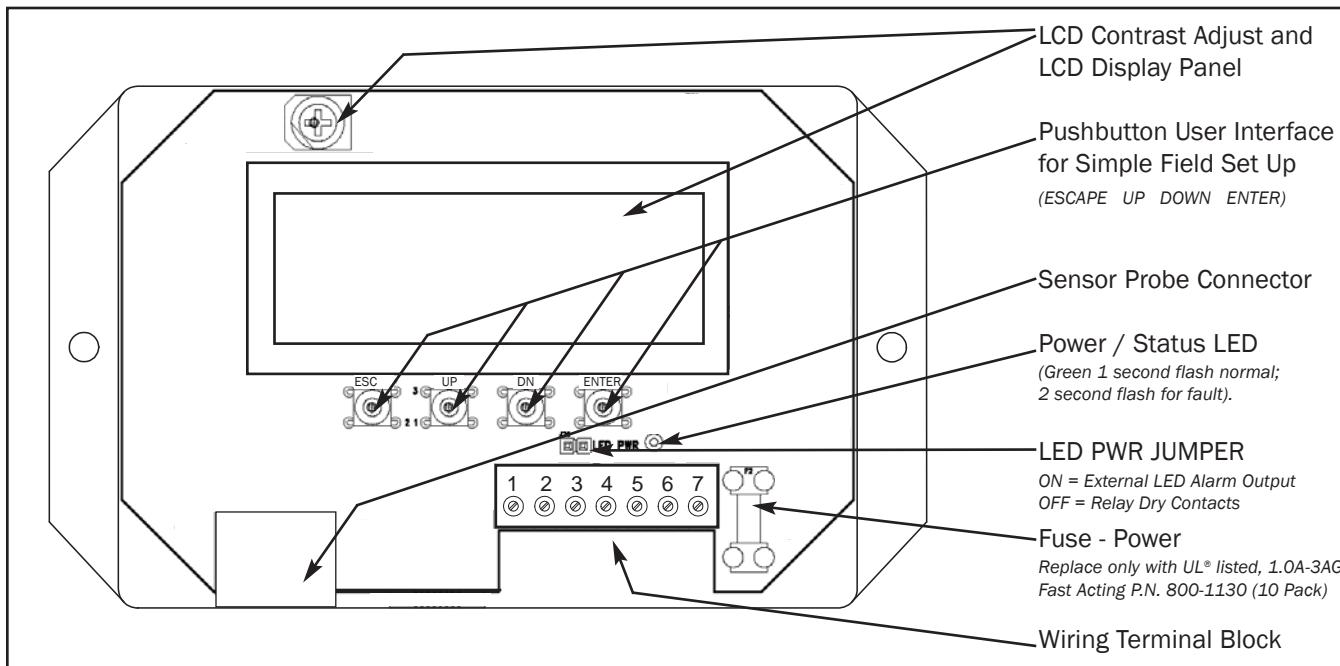

Figure 6. GF-1200-A Main Circuit Board Detail
Transmitter wiring consists of connecting the 24VAC input power, the analog output signal wires and optional alarm output wires at the GF-1200-A. Refer to Figures 6 and 7 for additional detail. Following installation, the airflow measurement station is ready for operation. Custom setup options (other than the default values) can be entered as outlined in the transmitter Setup Procedure.
1. Remove the four cover retaining screws at each corner of the transmitter cover in order to gain access to the transmitter Wiring Terminal Block on the main circuit board shown in Figure 6.
3. Connect 24 VAC power to terminal 7, and the 24V ground at terminal 6 of the wiring terminal block as shown in Figures 6 and 7, observing the previous wiring precautions.
1. Connect AOUT analog output signal wire at terminal 5, and the signal ground at terminal 4 as shown in Figures 6 and 7 while observing the previous wiring precautions.
The GF-1200-A provides an alarm output that can be configured as relay dry contacts, or as direct drive (15 mA typical) for an external LED indicator. The alarm output type is set using the LED PWR jumper on the GF-1200-A circuit board as shown in Figure 6. With the LED PWR jumper on, alarm output is set to provide an external LED drive (15 mA typical) at terminal 3, with ground return at terminal 1. With the LED PWR jumper OFF, alarm output is set to provide relay dry contacts between terminals 2 and 3 (contacts rated at 30VDC/24VAC 3 amps maximum). Alarm can be set as contact close or open on alarm as detailed in the Setup menu later in this manual.
The programmable alarm feature consists of a user selectable alarm output type (relay dry contacts or LED drive) that can be configured in the Setup menu as an airflow alarm or system trouble alarm. The alarm output type, either external LED driver (15 mA typical), or relay dry contacts, is determined by the LED PWR jumper on the GF-1200-A transmitter circuit board (Figure 6).
As a system trouble alarm, the alarm can be set to activate in the event of a fault detected in the sensor or transmitter. The alarm output type, either external LED driver (15 mA typical), or relay dry contacts, is determined by the LED PWR jumper on the GF-1200-A transmitter circuit board (Figure 6).